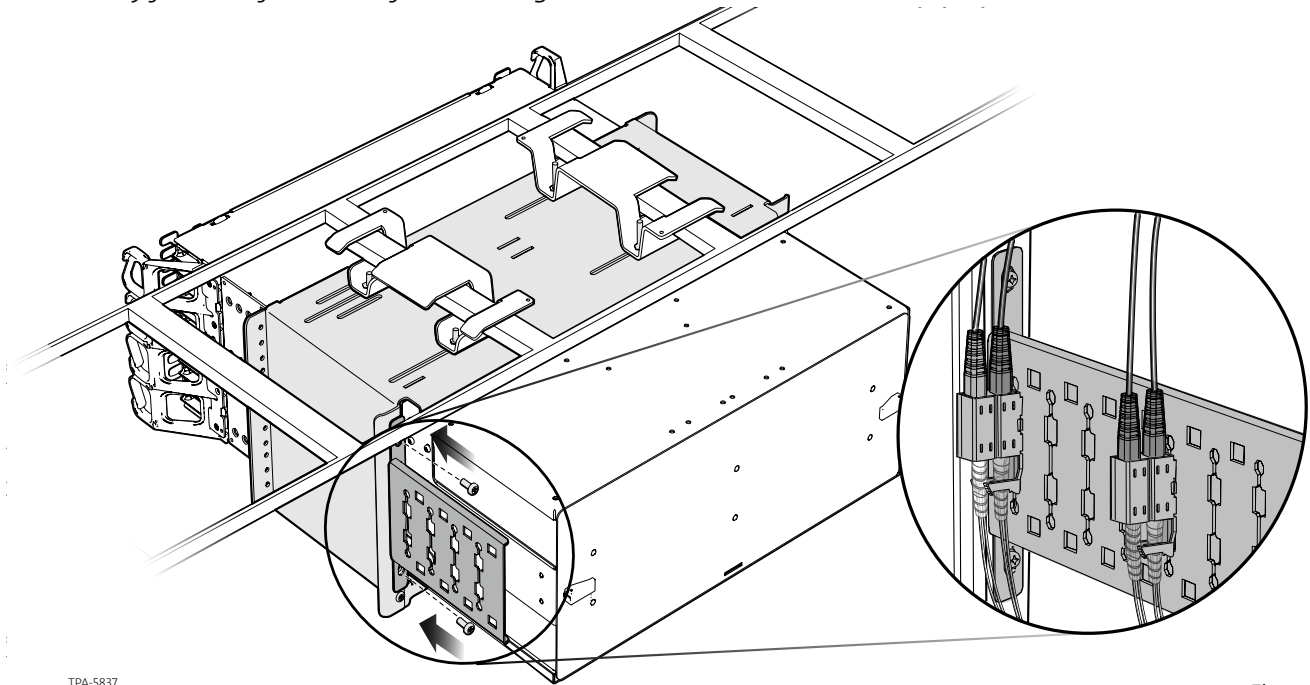

Figure 6
Step 2: Install bracket using two 12-24 screws (Figure 6). Allow enough clearance when routing trunks from the bracket into the housing to ensure bend radius is maintained when trunks enter the housing.